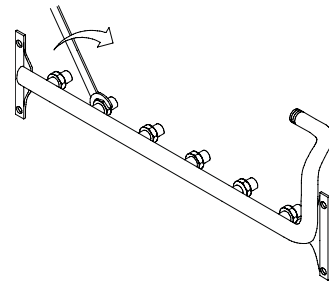

Fig. 2 - Remove Orifices
1. Remove the Natural gas (brass) burner orifices from the manifold assembly and replace them with the appropriate Propane (silver) orifices furnished in the conversion kit (Fig. 2), unless converting a high altitude unit, then see Table 1 for appropriate orifices.